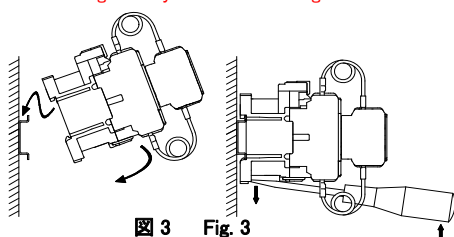
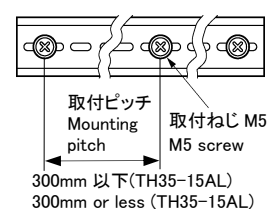

図3 Fig. 3
図2 Fig. 2
- (3) レール取付けはIEC60715の35mm幅支持レールに取付けできます。レールのパネル取付け方法(図2)、取付・取外し(図3)
- (3) The rail mounting type can be attached on a standard 35mm IEC60715 mounting rail. Fuji type TH35-15AL mounting rail is recommended. Mounting of the rail on the panel (Fig. 2) Attachment and removal (Fig. 3)